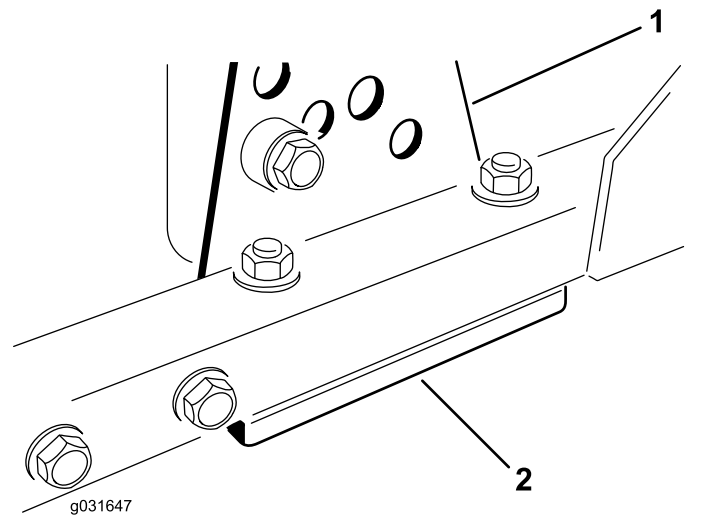

Figure 65
1. Remove the height-of-cut bracket (front, left, or right) from the cutting unit frame (Figure 65).
2. Adjust the 1.5 mm (0.06 inch) shims and/or 0.7 mm (0.03 inch) shim between the cutting unit frame and bracket to achieve the desired height of cut (Figure 65).
3. Install the height-of-cut bracket to the cutting unit frame with the remaining shims assembled below the height-of-cut bracket (Figure 65).